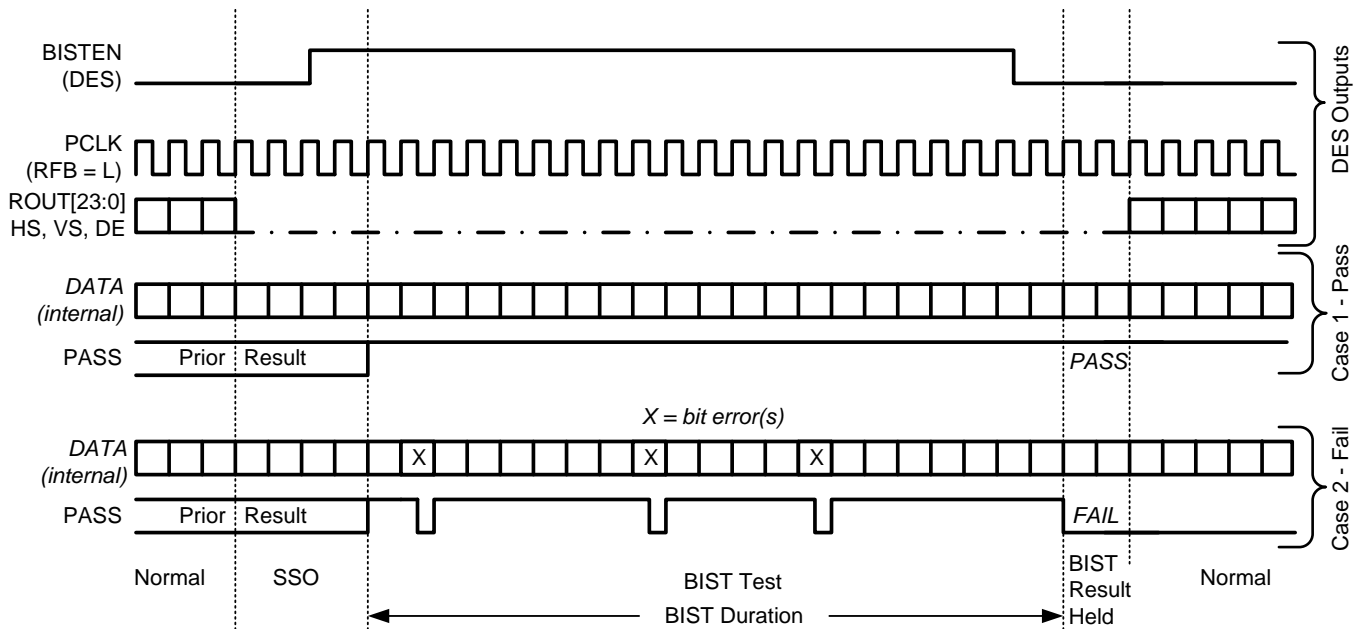

图 17. Bist Waveforms
Step 4: The Link returns to normal operation after the deserializer BISTEN pin is low. 图 17 shows the waveform diagram of a typical BIST test for two cases. Case 1 is error free, and Case 2 shows one with multiple errors. In most cases it is difficult to generate errors due to the robustness of the link (differential data transmission etc.), thus they may be introduced by greatly extending the cable length, faulting the interconnect, reducing signal condition enhancements (Rx Equalization).